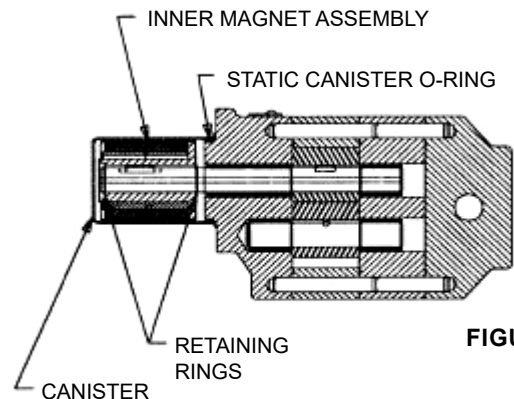

FIGURE 11
2. The canister will probably be full of liquid. Use care while removing from the pump and pull straight off. Remove the external snap ring (closest to end of shaft) and slide off the inner magnet assembly (See Figure 11). Use caution, as this is a very strong magnet.
with second retaining ring. Rotate the pump shaft and magnet to make sure they turn freely. Inspect for any foreign particles which could damage the pump. Check the bracket O-ring to make sure it is in good condition and installed properly. Place the canister onto the pump and press on until the canister is in contact with the pump bracket (See **Figure 11** on page 7).